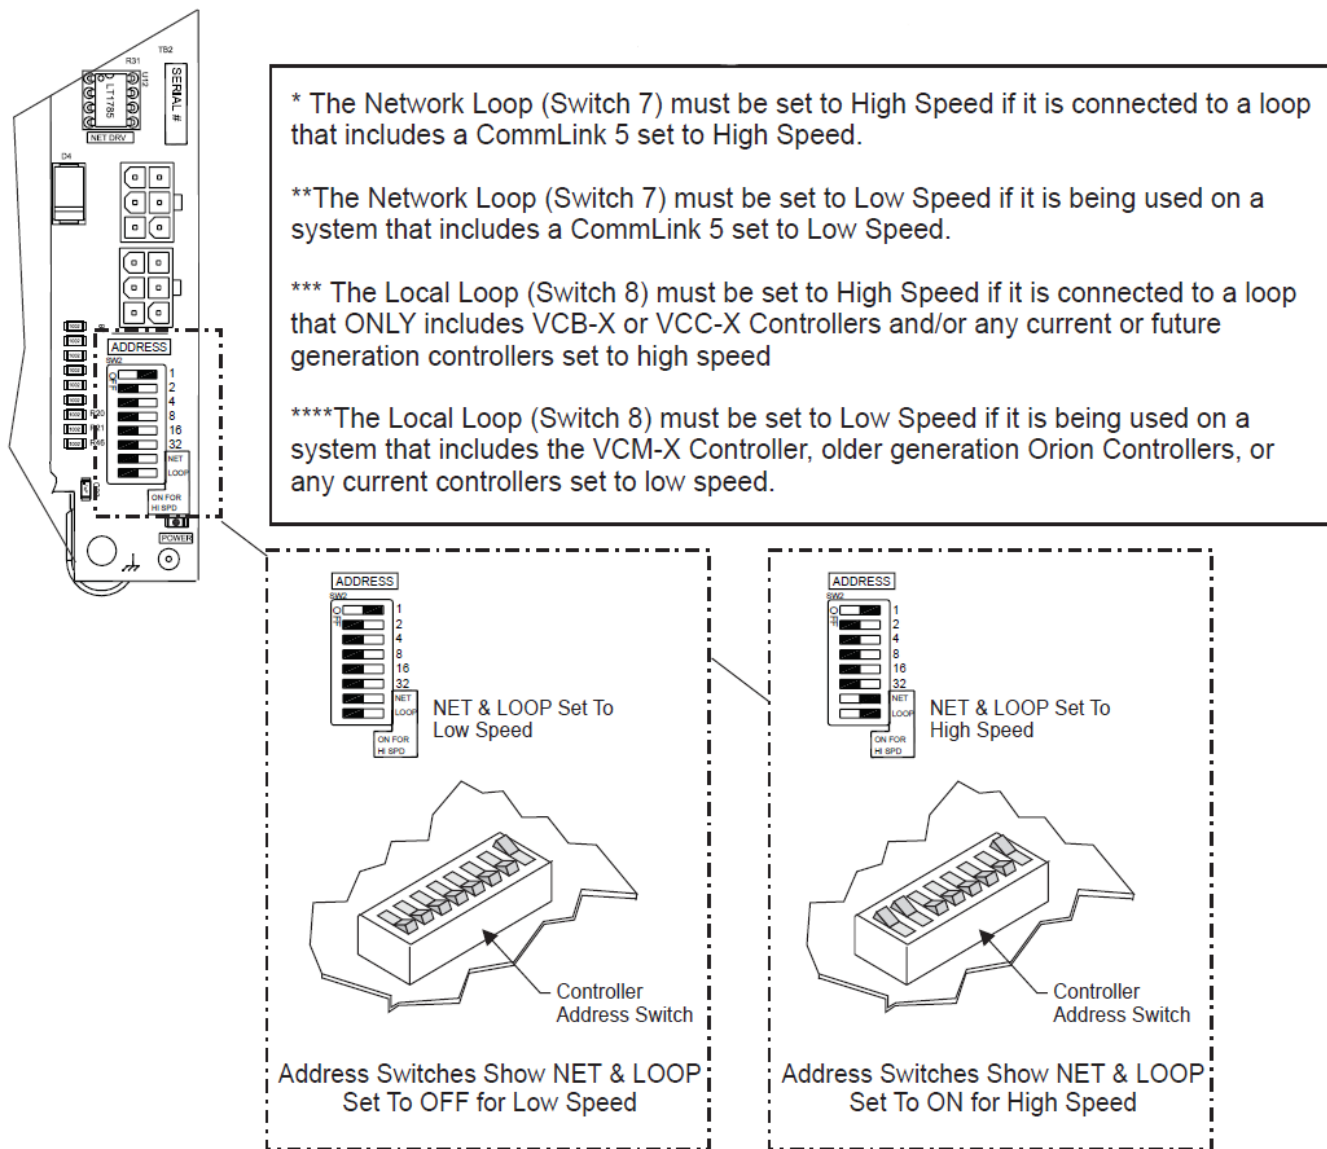

Figure 3: Network and Local Loop Baud Rate Settings
- The MiniLink PD 5 is factory default set to low speed. The baud rate is set with dipswitches 7 & 8. See Figure 3.